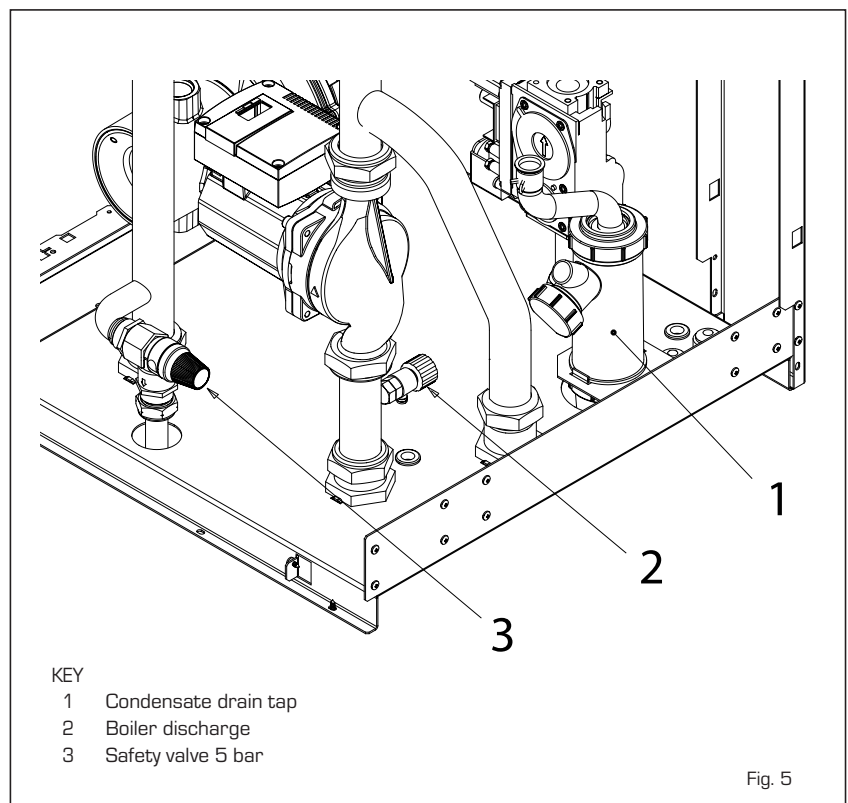

Fig. 5
2.4.1 System draining (fig. 5)
To drain the system, turn off the boiler and use the discharge valve (2 fig. 5).